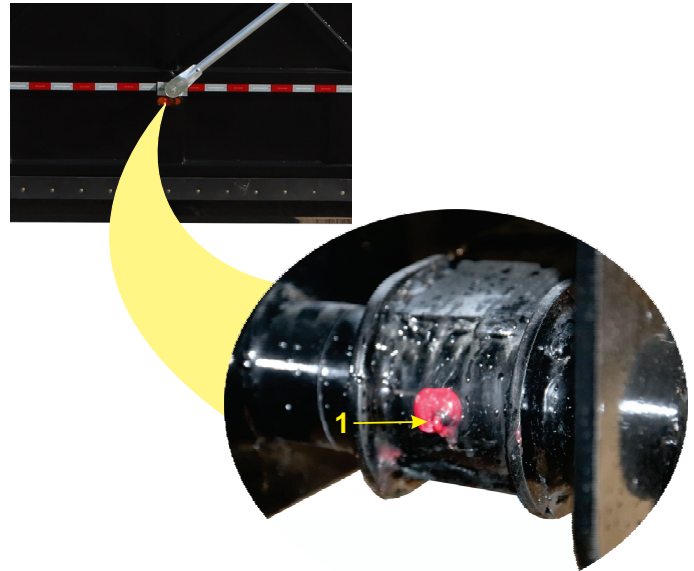

Figure 4-8 – Semitrailer Support Arm Lubrication
- a. Tarp arm center pivot (1, Figure 4-8). Repeat this procedure on both sides of the trailer.